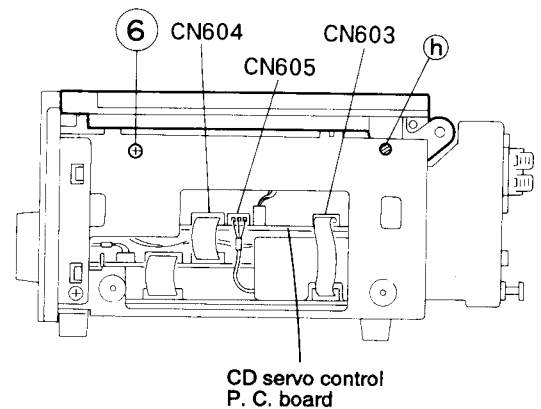

Fig. 5-26
6. Disconnect the card wires, connectors, etc. from the respective connectors CN602, CN604 and CN605 on the CD amp. P.C. board (See Fig. 5-26).